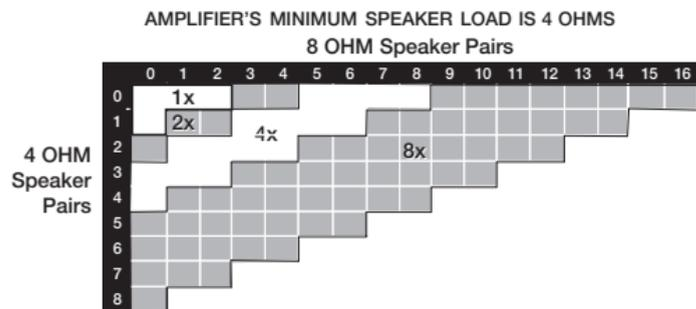
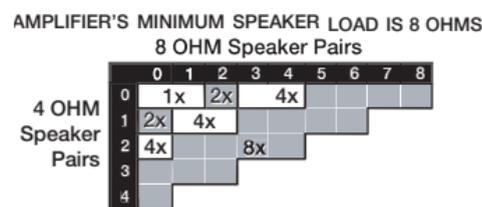
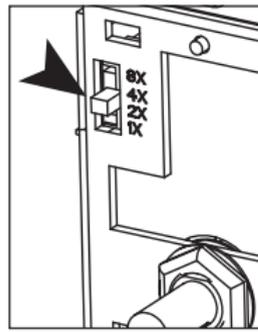

Figure 3
Figure 4
Figure 6
3. Read the correct switch position from the charts on page 7. See **Figure 3** if your amplifier can drive a 4-ohm load. See **Figure 4** if your amplifier must have an 8-ohm speaker load.
5. Set the Impedance Magnification Switch (See **Figure 6**) as determined by the IM charts (**Figures 3 and 4**).